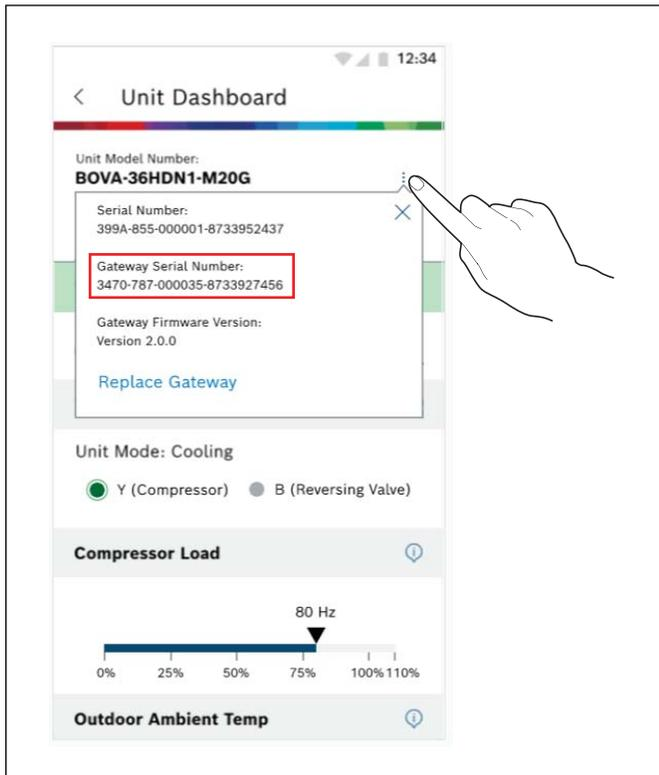

Figure 19
24. Tap "Unit Dashboard". Confirm the S/N on the Gateway matches the Serial Number in the Bosch EasyAir App by tapping the 3 vertical dots at the top of the Unit Dashboard (Refer to Figure 19).